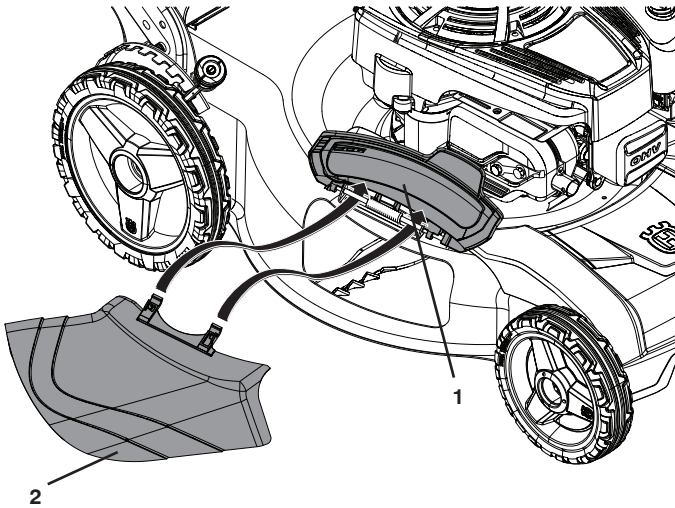

Figure 13
2. Open mulcher door and install discharge deflector under door as shown (Figure 13).